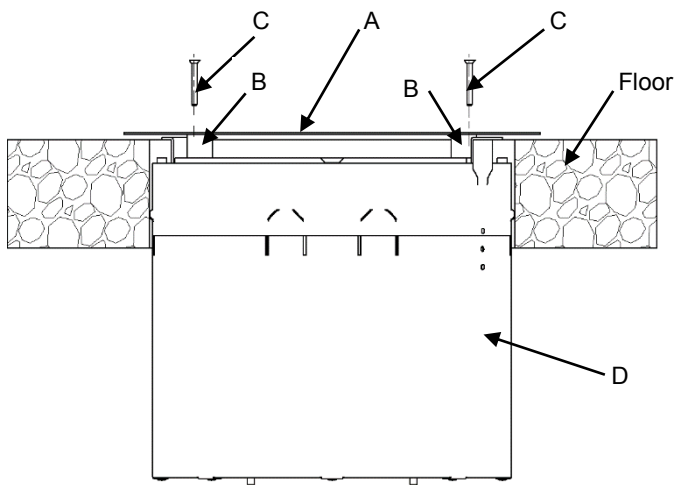
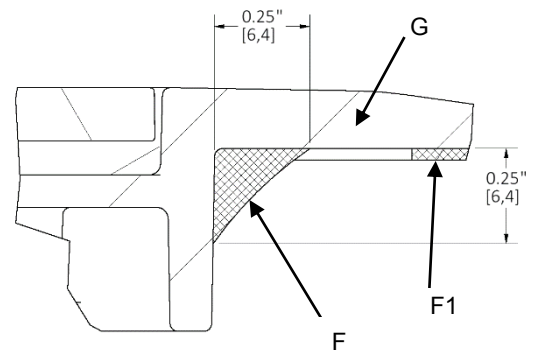
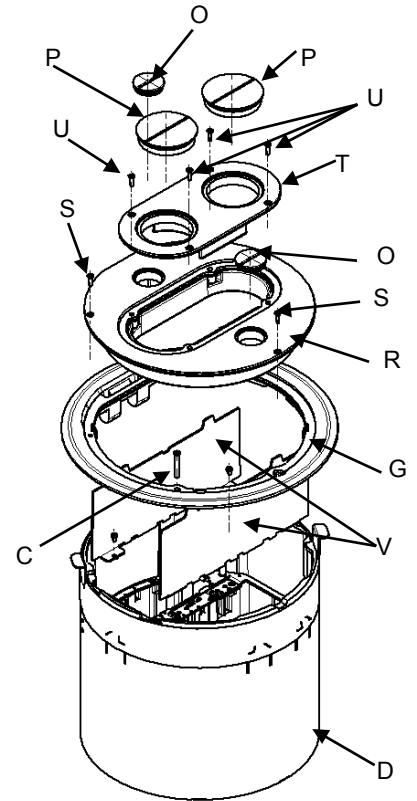

Fig. 1
Fig. 2
Fig. 8
1. Remove installation plate (A) and installation tubes (B) if installed, Fig. 1, and retain screws (C).
2. Install data/AV and/or power cover plates (S1R10CSPxxx series and S1R10PSPxxx series) and associated components, purchased separately, into service fitting (D) per the cover plates included instructions.
3. Apply a ¼ [6,4mm] thick continuous bead of electrical type of RTV silicone sealant (F) fully around the corner on the underside of the flange (G) as shown in Fig. 2.
4. Apply a ¼ [6,4mm] thick continuous bead of electrical type of RTV silicone sealant (F1) fully around the perimeter on the underside of the flange (G) as shown in Fig. 2.
2. Remove installation plate (A) and installation tubes (B) if installed, Fig. 1, and retain screws (C).
3. Install Furniture Feed (FF) dividers (V) per the FF divider instructions below.
4. Remove three screws (S) and cover (R) from flange (G) Fig. 8.
5. Apply a 1/4 [6,4mm] thick continuous bead of electrical type of RTV silicone sealant (F) and (F1) fully around the corner and fully around the perimeter on the underside of the flange (G) as shown in Fig. 2.
6. Install flange (G) to the service fitting (D) using retained screws (C) and torque to 10-12 in-lbs (1,1-1,4 Nm), Fig. 8.
8. Fasten cover (R) to flange (G) with three screws (S) provided and torque to 6-8 in-lbs (0,7-0,9 Nm) Fig. 8. Discard installation plate (A) and installation tubes (B) from Fig. 1.
9. For data/AV, remove 4 screws (U) and cover (T). Feed wires through the data compartment. Feed wire through either one or both of the 2" feeds and install cover (T) to cover (R) using 4 screws (U). Torque screws (U) to 6-8 in-lbs (0,7-0,9 Nm).
11. If using 1" to 3/4" reducer (Q), thread reducer (Q) onto screw-in connector and then install reducer and screw-in connector to cover (R). Tighten screw-in connector per manufacturer's installation instructions. Apply continuous bead of electrical type of RTV silicone sealant around screw-in connector to ensure water tightness.
1. The FF divider (V) can be installed with or without flange (G) installed, Fig. 8.